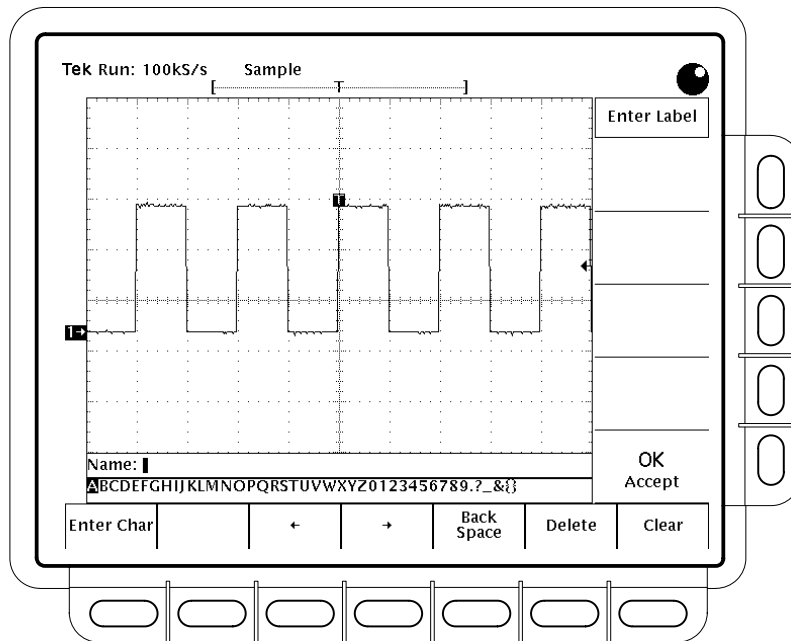

Figure 3-30: File System — Labelling Menu
2. Press **Rename** (side). The labelling menu will appear. (See Figure 3-30.)